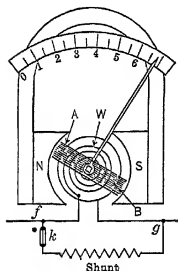

FIG. 250. The range of the milliammeter is increased because some of the current goes through the shunt.
**134. The Ammeter.** The instrument just described can be used to measure any magnitude of direct current if it is provided with a shunt as shown in Fig. 250. This shunt or resistor is chosen of such size that it takes a large or small proportion of the total current as the case may require, thus causing full-scale deflection for a larger total current than without the shunt. For example, suppose the instrument described in the previous section is provided with a 9-ohm shunt.
$= 0.225$  ampere through the shunt. The total current through the instrument is the sum of the currents through the coil and through the shunt or  $0.025 + 0.225 = 0.25$  ampere or 250 milliamperes. That is, when the instrument reads 25 milliamperes, 250 milliamperes are actually being measured. When provided with a switch *K*, Fig. 250, to disconnect the shunt this milliammeter is given two ranges, 0–25 milliamperes when the switch is to the left (open) and 0–250 milliamperes when the switch is to the right (closed).